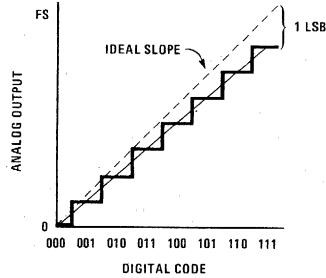
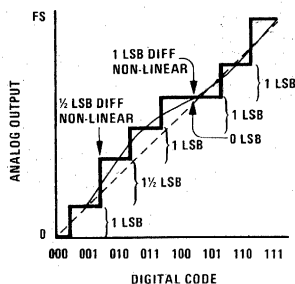
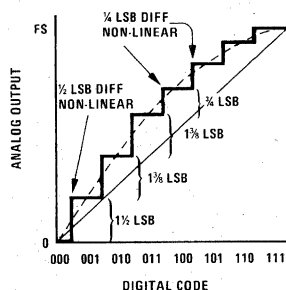
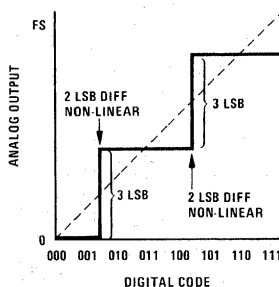

FIGURE 4. Linear, 1 LSB Scale Error
FIGURE 6.  $\pm\frac{1}{2}$  LSB Non-Linearity (Implies 1 LSB Possible Error), 1 LSB Differential Non-Linearity (Implies Monotonicity)
FIGURE 7.  $1\frac{1}{2}$  LSB Non-Linear,  $\frac{1}{2}$  LSB Differential Non-Linearity
FIGURE 8.  $\pm 1$  LSB Linear,  $\pm 2$  LSB Differential Non-Linear
**Scale Error** (full scale error) is the departure from design output voltage of a DAC for a given input code, usually full-scale code. (See figure 4.) In an ADC it is the departure of actual input voltage from design input voltage for a full-scale output code. Scale errors can be caused by errors in reference voltage, ladder resistor values, or amplifier gain, *et. al.* (See **Temperature Coefficient**.) Scale errors may be corrected by adjusting output amplifier gain or reference voltage. If the transfer curve resembles that of figure 7, a scale adjustment at  $\frac{1}{3}$  scale could improve the overall  $\pm$  accuracy compared to an adjustment at full scale.
Figure 6 shows a 3-bit DAC transfer curve with no more than  $\pm\frac{1}{2}$  LSB non-linearity, yet one step shown is of zero amplitude. This is within the specification, as the maximum deviation from the ideal straight line is  $\pm 1$  LSB ( $\frac{1}{2}$  LSB resolution error plus  $\frac{1}{2}$  LSB non-linearity). With any linearity error, there is a differential non-linearity (see below). A  $\pm\frac{1}{2}$  LSB linearity spec guarantees monotonicity (see below) and  $\leq \pm 1$  LSB differential non-linearity (see below). In the example of figure 6, the code transition from 100 to 101 is the worst possible non-linearity, being the transition from 1 LSB high at code 100 to 1 LSB low at 101. Any fractional non-linearity beyond  $\pm\frac{1}{2}$  LSB will allow for a non-monotonic transfer curve. Figure 7 shows a typical non-linear curve; non-linearity is  $1\frac{1}{2}$  LSB yet the curve is smooth and monotonic.
**Differential Non-Linearity** indicates the difference between actual analog voltage change and the ideal (1 LSB) voltage change at any code change of a DAC. For example, a DAC with a 1.5 LSB step at a code change would be said to exhibit  $\frac{1}{2}$  LSB differential non-linearity (see figures 6 and 7). Differential non-linearity may be expressed in fractional bits or in % FS.
Differential linearity specs are just as important as linearity specs because the apparent quality of a converter curve can be significantly affected by differential non-linearity even though the linearity spec is good. Figure 6 shows a curve with a  $\pm\frac{1}{2}$  LSB linearity and  $\pm 1$  LSB differential non-linearity while figure 7 shows a curve with  $+1\frac{1}{2}$  LSB linearity and  $\pm\frac{1}{2}$  LSB differential non-linearity. In many user applications, the curve of figure 7 would be preferred over that of figure 6 because the curve is smoother. The differential non-linearity spec describes the smoothness of a curve; therefore it is of great importance to the user. A gross example of differential non-linearity is shown in figure 8 where the linearity spec is  $\pm 1$  LSB and the differential linearity spec is  $\pm 2$  LSB. The effect is to allow a transfer curve with grossly degraded resolution; the normal 8-step curve is reduced to 3 steps in figure 8. Similarly, a 16-step curve (4-bit converter) with only 2 LSB differential non-linearity could be reduced to 6 steps (a 2.6-bit converter?). The real message is, "Beware of the specs." Do not ignore or omit differential linearity characteristics on a converter unless the linearity spec is tight enough to guarantee the desired differential linearity. As this characteristic is impractical to measure on a production basis, it is rarely, if ever, specified, and linearity is the primary specified parameter. Differential non-linearity can always be as much as twice the non-linearity, but no more.